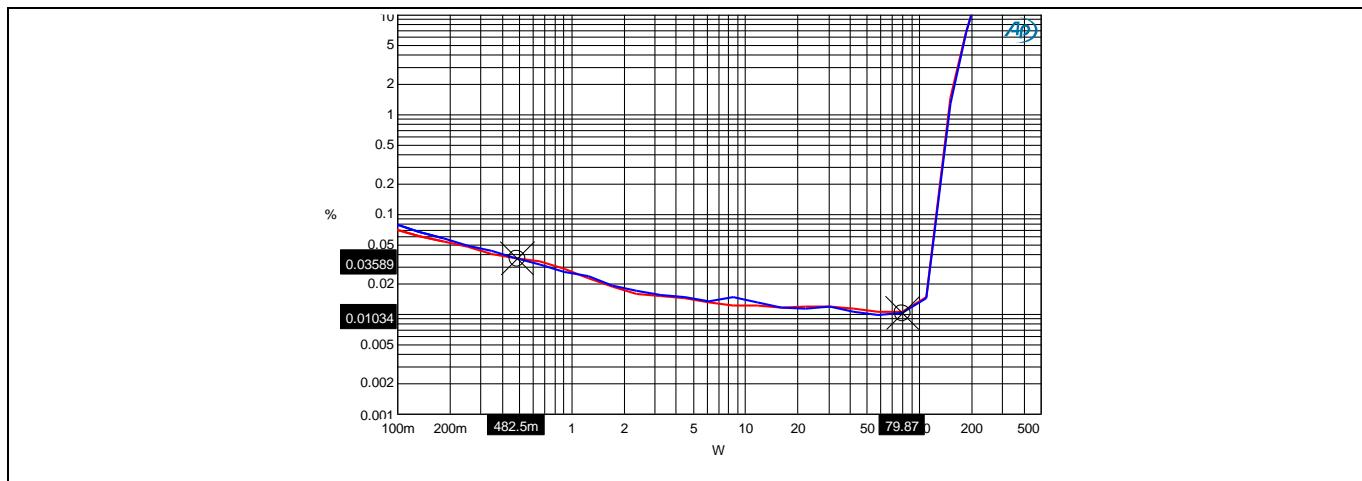

Figure 5 Power vs. THD+N 4 Ω load
8. Run the AP test as shown in Figures 5 to 12, below.